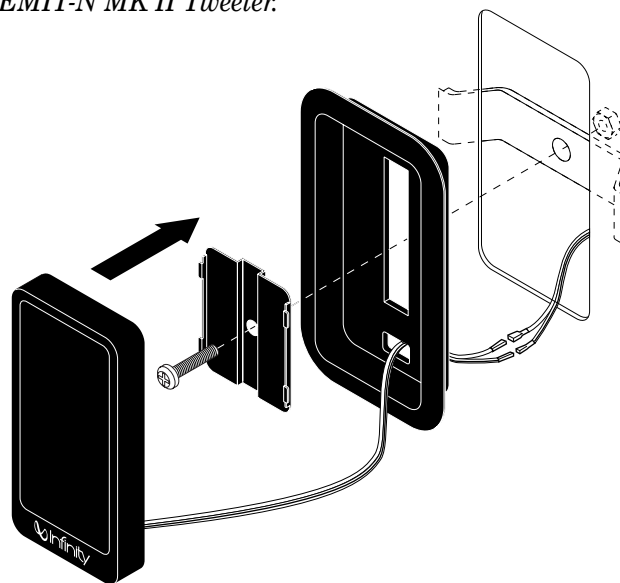

Figure 4. After sliding the flush-mount clip onto the back of the Kappa EMIT-N MK II tweeter, use the supplied hardware to fasten cup to the panel.
2. Insert a machine screw (enclosed) through the flush-mount plate, align its tabs with the channel openings on the back of the tweeter, and slide it down to lock it in place, as shown in Figure 4.
4. Place the cup and tweeter into the panel hole and fasten it by using the retaining clip and enclosed wing nut (see Figure 4).